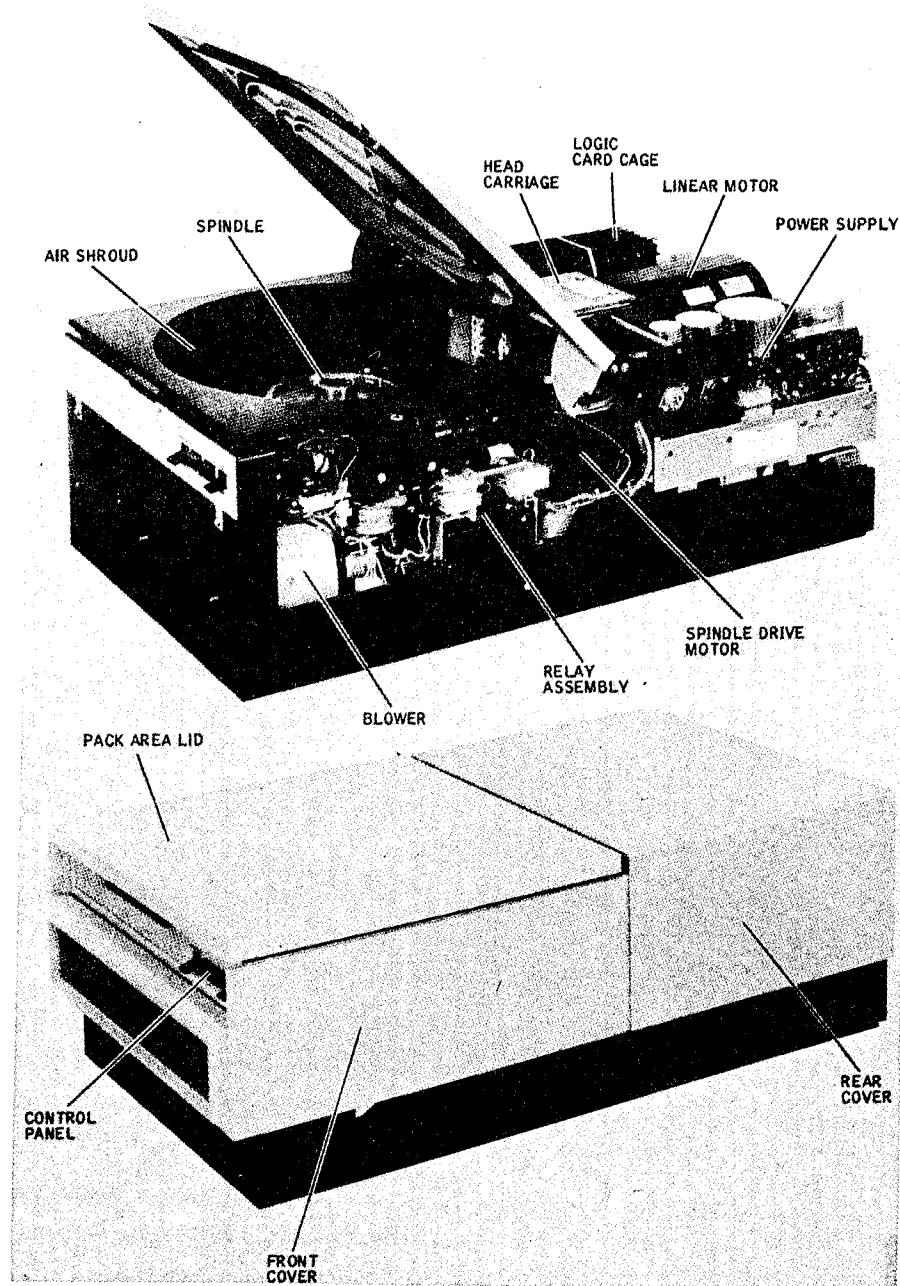

Figure 1-1. Locations of Major Components
The Disc Drive is packed as a single unit. The three main parts of the Disc Drive are: (1) Cabinet, (2) Disc Drive Assembly, and (3) Removable Disc Packs. The Disc Drive Cabinet has a control panel, pack area lid, front cover and rear cover. Figure 1-1 illustrates the locations of the main parts and their subassemblies (the removable Disc Pack is not shown).